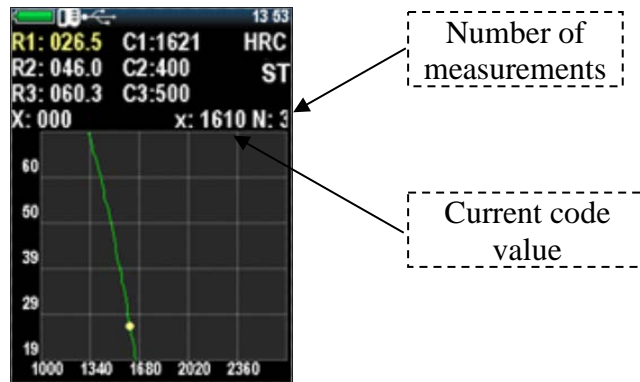

Figure 2.31 - Measuring for calibration
4. Then move the cursor to the hardness value according to the sample, and make at least five measurements (Figure 2.31). Make sure that the value of X (the current code value) does not deviate more than 3%.